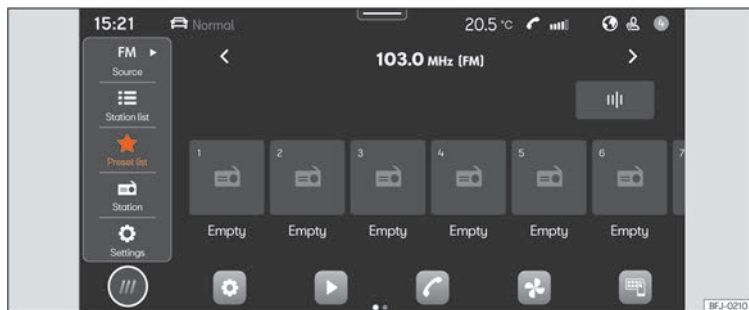

Fig. 123 Schematic representation: Radio view
- Press **HOME** > >>> **Fig. 123**.